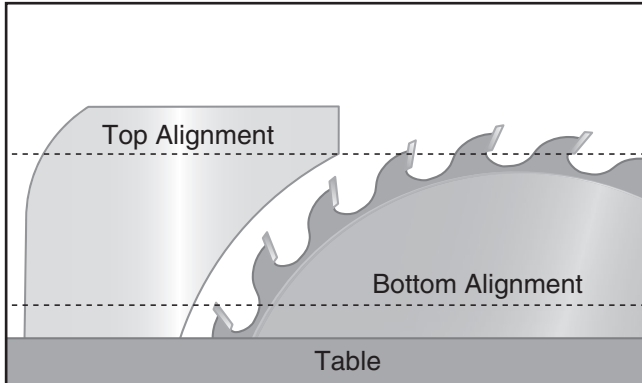
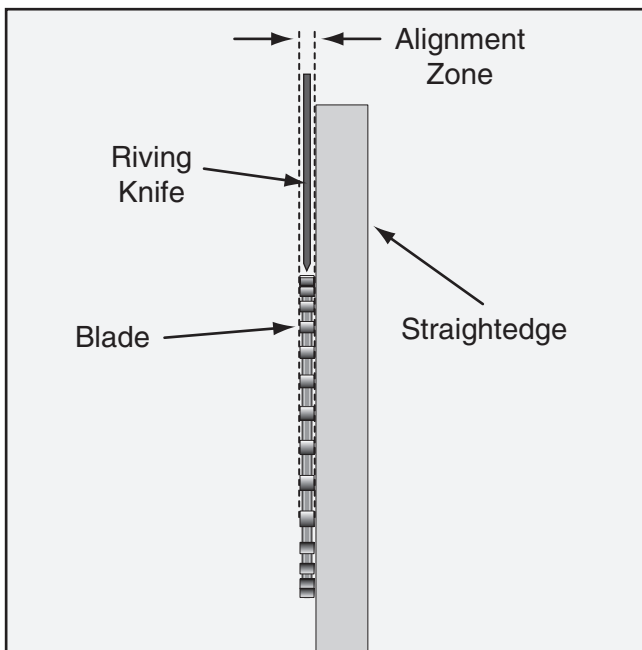

Figure 71. Checking the top and bottom riving knife parallelism with the blade.
Figure 72. Riving knife alignment zone.
- Place the straightedge against the top and bottom of the blade and riving knife, as shown in **Figure 71**. The riving knife should be parallel with the blade along its length at both positions and should be in the *Alignment Zone*, as shown in **Figure 72**.